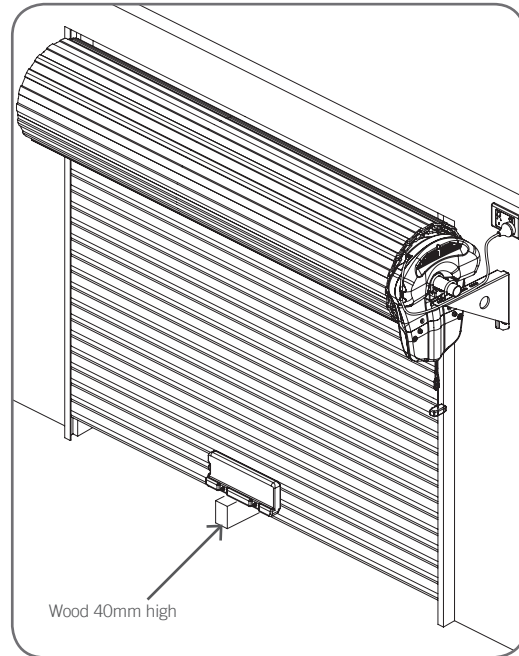

Fig.18
- Place a 40mm obstacle flat on the floor under the middle of the garage door (**Fig. 18**).